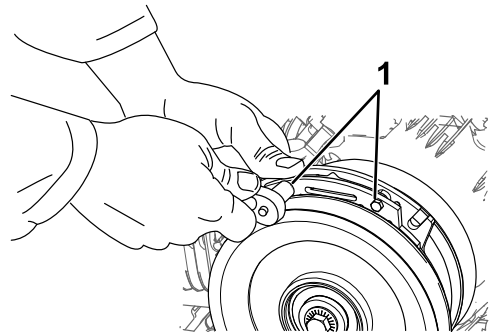

Figure 63
- A. Loosen both brake mounting bolts 1/2 to 1 full turn as shown in Figure 63.